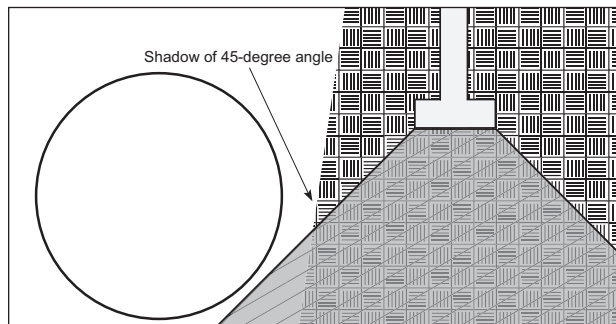

FIGURE 5-6
5.4.2. The location of a tank can be affected by the location of nearby structures. When selecting a tank site, care must be taken to avoid undermining the foundations of existing structures or new buildings to be constructed. (See FIGURE 5-6.)
5.4.3.4. The tank must not fall within the "shadow" of the 45-degree-angle line drawn from the foundation's footing. (See FIGURE 5-6.)